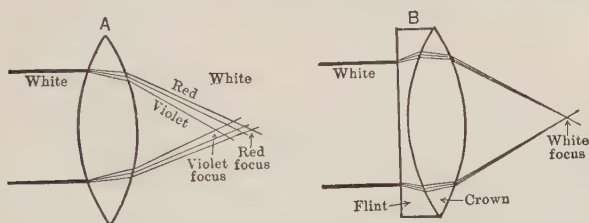

FIGURE 619. — CHROMATIC ABERRATION.
**428. Chromatic Aberration.** — The different refraction of the various wave lengths of light is the basis of the dispersion of light. The waves corresponding to red are bent less than those corresponding to violet, with the others as intermediates between these two. A simple lens must always form an image with a colored fringe (Figure 619, *A*). Newton did not know of the different refracting power of various kinds of glass and therefore thought that in all
images the red would focus at one place far from the lens with the other colors in order nearer the lens. The telescope and the compound microscope were both at a standstill in development because of this defect. Soon after Newton it was discovered that a convex lens of crown glass combined with a concave lens of flint glass would cure the dispersion but still cause refraction (Figure 619, *B*). All good lenses for optical instruments are now constructed on this plan. Since other corrections must also be made, the modern lens is very often a complicated affair of many parts, either separate or fastened together.